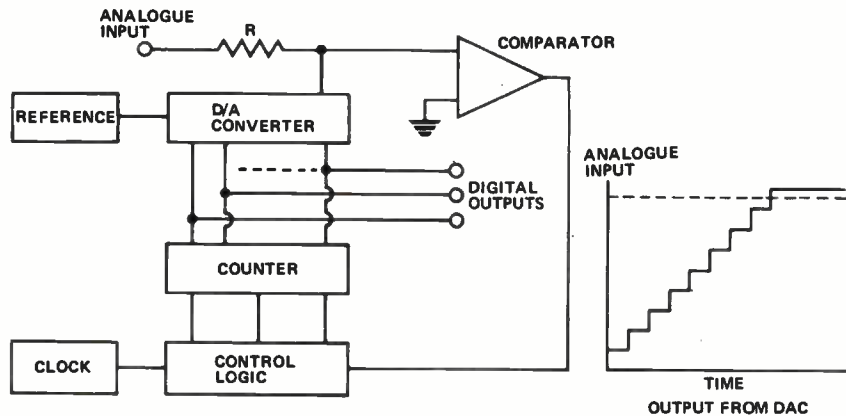

Fig. 20. Schematic of servo A/D converter system.
**Servo-DAC method** — Fig 20 shows this system. When conversion begins, a counter is gated and commences to